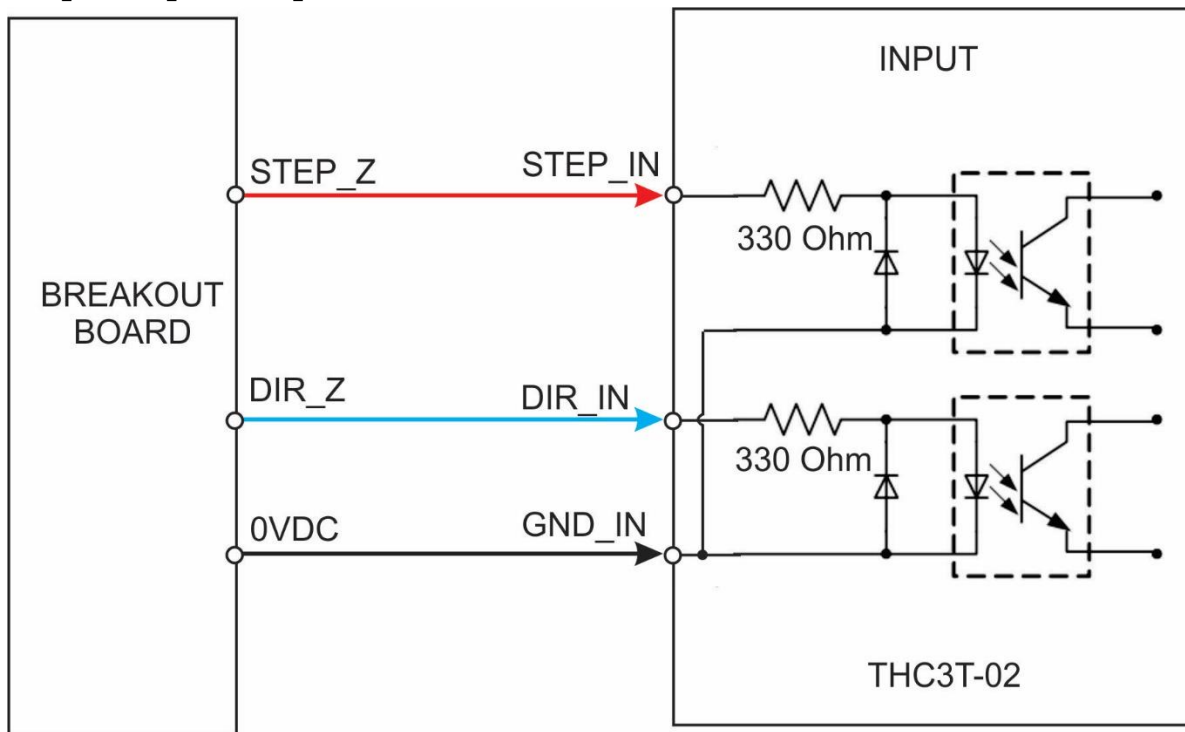

Fig10. Step/dir from breakout board
- Step 3: Connect input pulse/dir from breakout board. (fig.10)